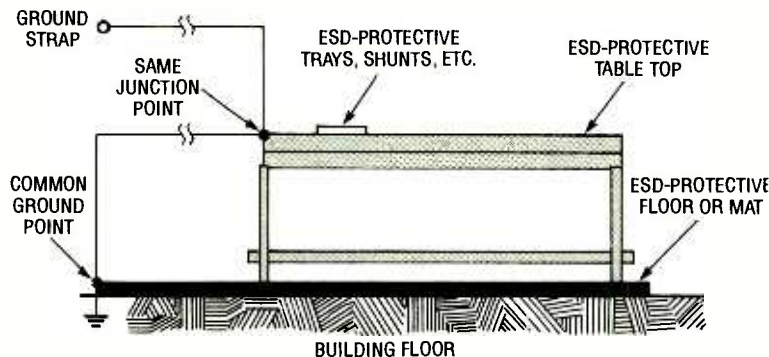

Fig. 1. A properly grounded ESD work bench uses a single ground point for everything except the wrist strap, which should be connected to the bench-top mat.
method is to cover the work surface with a conductive anti-static sheet or mat, as shown in Fig. 1. The mat will constantly drain any static charges to ground. It should have a grounding cable, a series resistance of at least 250,000 ohms to ground (to protect the wearer by limiting current), and be connected to the common ground of the workshop.
**Circuit Description.** Figure 1 shows a schematic diagram of the Ion Detector—a rather simple circuit consisting of three transistors, (two PN2907 PNP units, and a single PN2222 NPN unit), three resistors, an antenna, and an LED.
Fig. 1. The Ion Detector is a rather simple circuit consisting of three transistors, (two PN2907 PNP units, and a single PN2222 NPN unit), three resistors, a telescoping antenna (which is used as the ion pickup), and an LED.
board (at the junction of C1, the positive lead of the panel meter, and the positive terminal of the battery) as shown in Fig. 1. The aluminum strip serves as the circuit's grounding point. That grounding strip can be replaced or supplemented by a wired alligator clip for connection to a "true" earth ground (a water pipe, for instance).
Radio Shack's universal interface for their "Plug'n Power" home controllers provided a solution. The interface will accept almost any kind of signal on its input, and will activate any number of remote modules through the house wiring when the signal is received. Adding a matching remote-controlled appliance module or a special wall outlet (both available from the same source) completes the system. Figure 1 illustrates the major components of the system and how they might be used to protect two faucets. Note that both a controlled outlet and
Fig. 1. A few components must be added to the temperature controller to complete the Freeze Fighter. This illustration shows two options for the remote devices: a remote-controlled outlet and a plug-in controller.